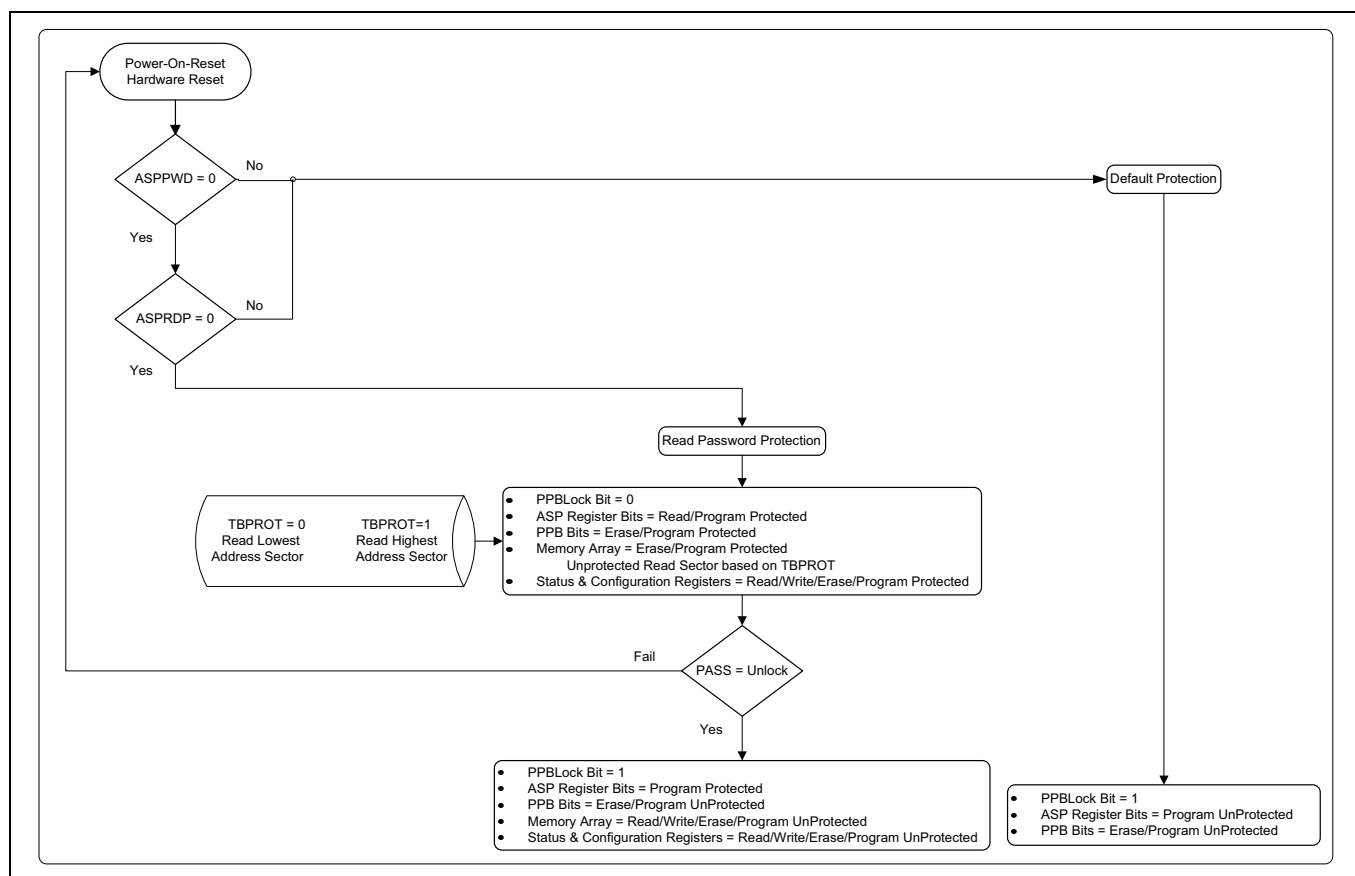

**Figure 49 Password protection scheme flowchart**
**Note** A password must be programmed before selecting the password protection scheme. The password unlock SPI transaction (PWDUL\_0\_1) or Octal transaction (PWDUL\_4\_1) is used to provide a password for comparison. The password protection scheme flowchart is shown in **Figure 49**.